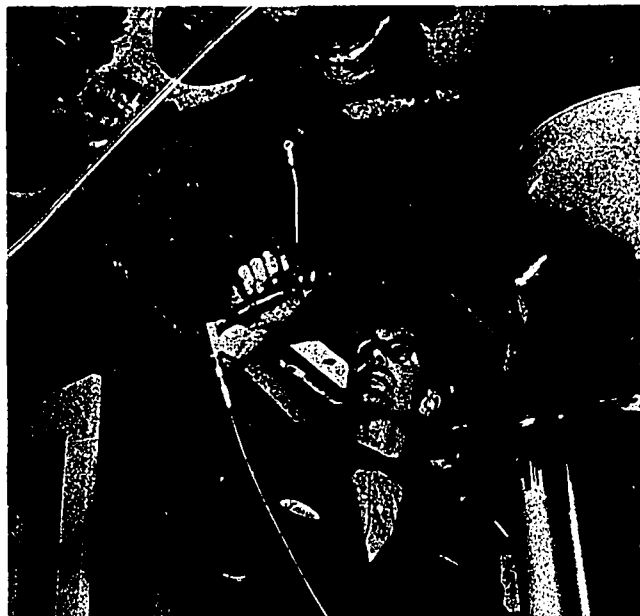

Fig. 33-12. This service station worker would have a high "thing" rating.
3. The "things" division, value of 4, is of average importance to the job. See Fig. 33-12.